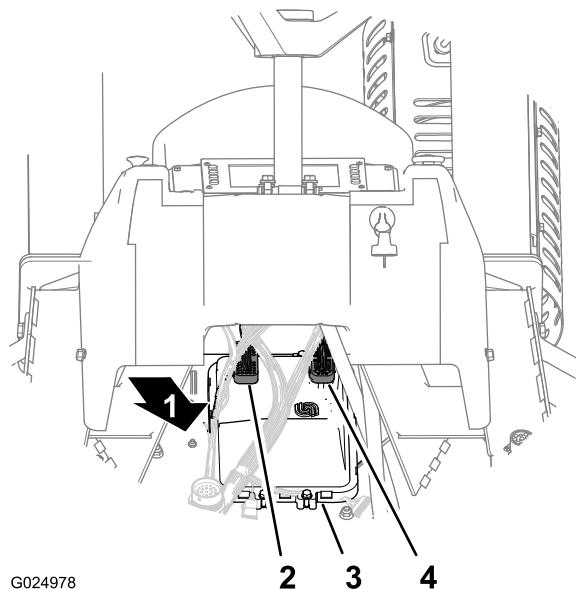

Figure 124
2. Disconnect the 50-pin connector (CPU 1) from the back of the computer module (Figure 124).
3. Disconnect the 38-pin connector (CPU-2) from the back of the computer module (Figure 124).
1. Connect the 38-pin connector (CPU-2) to the back of the computer module (Figure 124).
2. Connect the 50-pin connector (CPU 1) to the back of the computer module (Figure 124).